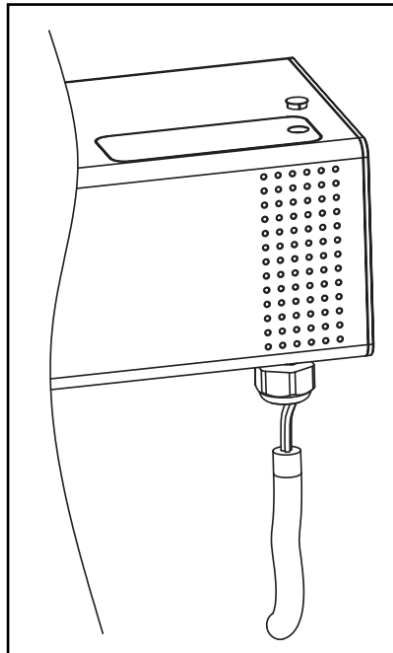

Figure 6
- a. Unfasten the cord grip as shown in Figure 6.
- b. Insert the field supplied power cord wire inside the hole of the cord grip and route the power cord through the water heater as shown in the Figure 6.